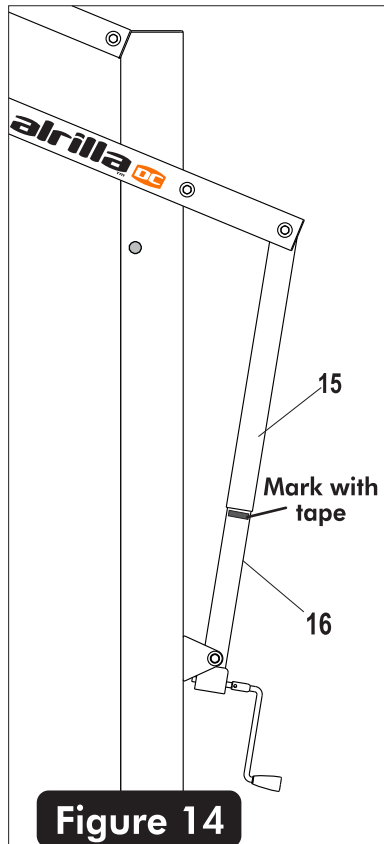

Figure 14
30. Using tape - mark the **side** of the steel actuator (#16) just under the plastic actuator sleeve (#15) at this 10 ft rim height. See **Figure 14**.